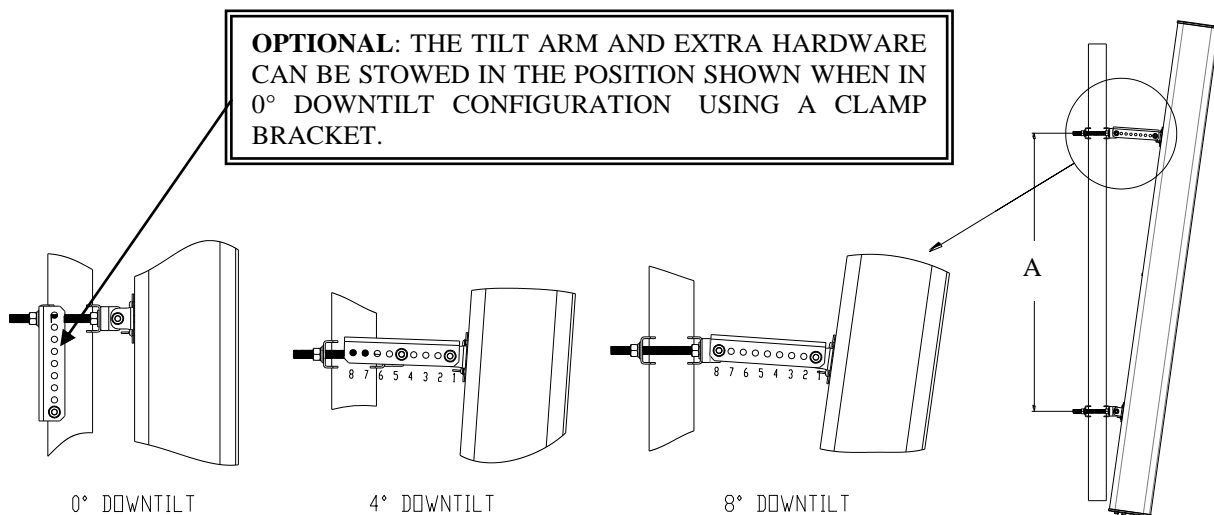

Figure 4: Typical Example of Upper Bracket Placement for Various Downtilts
2. For 0° downtilt the tilt arm may be stowed as show in Figure 4.